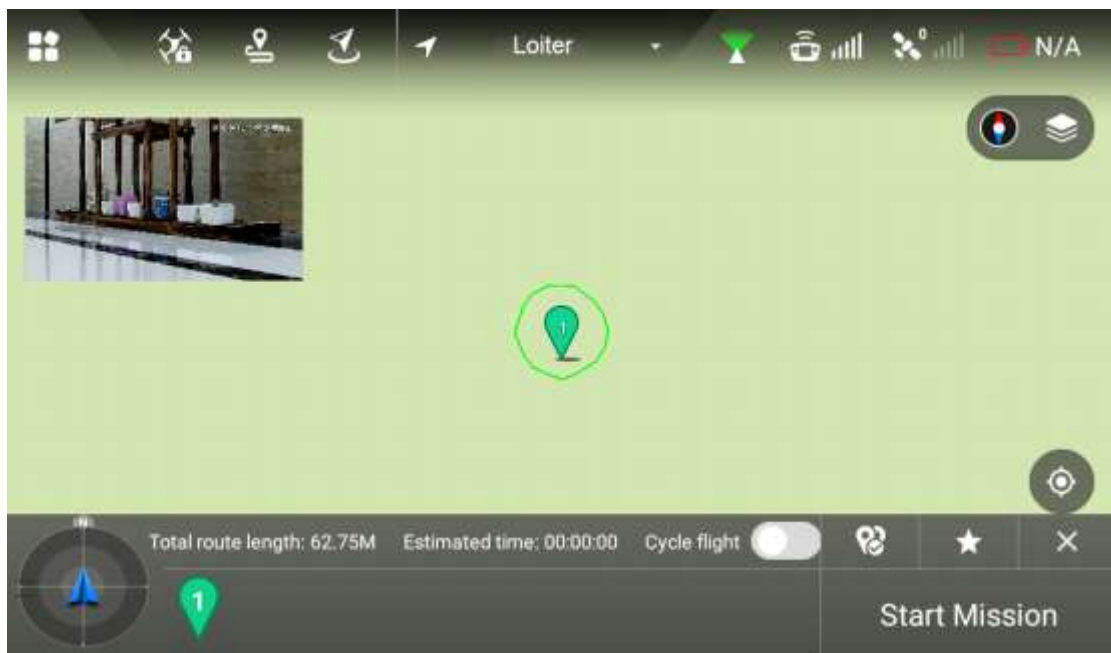

Figure 4-18
Step 1 Select "Circle" and enter the setting interface, as shown in Figure 4-18.